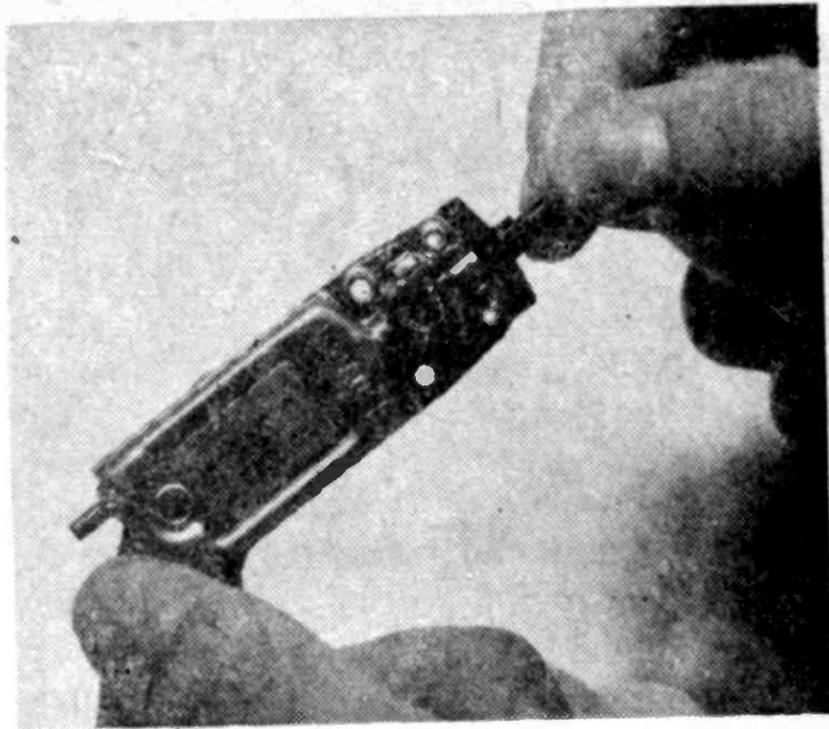

Fig. 20. Old turnover type crystal cartridge mounts and pivots on front shaft; it's removed by taking turnover knob off.
cartridge appears in Fig. 20. A thin screwdriver blade is needed to remove the small recessed screw. Be careful not to lose the small screw or tension spring on removing the cartridge.
**Snowy Picture.** A picture very light in detail with a lot of snow on the screen as in Fig. 20 is usually caused by a defective RF tube in the tuner. Substitute a new RF, oscillator, and first IF tube and see if the situation improves.